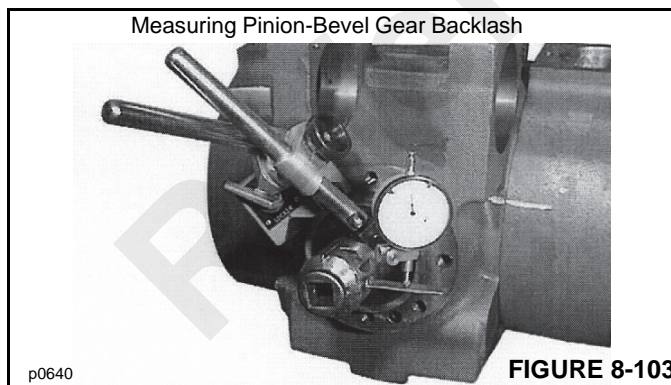

FIGURE 8-103
11. Install SPECIAL TOOL (Figure 8-22) to the end of the pinion shaft (Figure 8-103). Using a dial indicator mounted so that the feeler is in contact with the bracket surface of the SPECIAL TOOL at 90° Move the pinion shaft in both directions while holding the differential from moving and read the dial indicator. Check that the measured backlash is within the range of 0.15 - 0.20 mm (0.006 - 0.008 in).